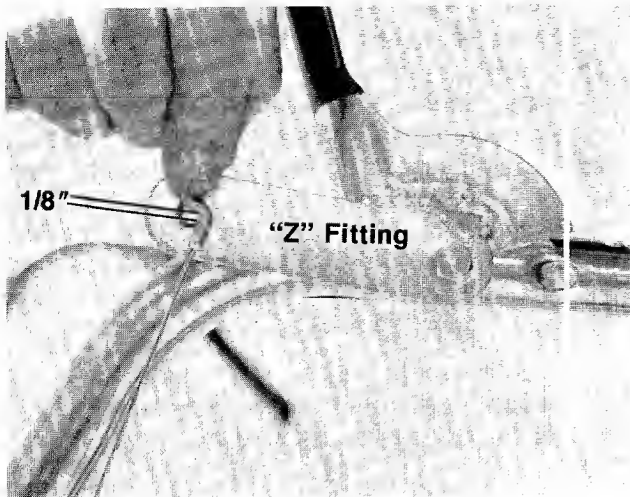

FIGURE 7.
3. Place the clutch grip on the left handle in the raised position. Hold the "Z" end of the cable against the clutch grip as shown in figure 7. Adjust the lower hex nut (underneath the cable bracket) so that the middle of the "Z" fitting is 1/8" above the bottom of the hole on the clutch grip as shown in figure 7.